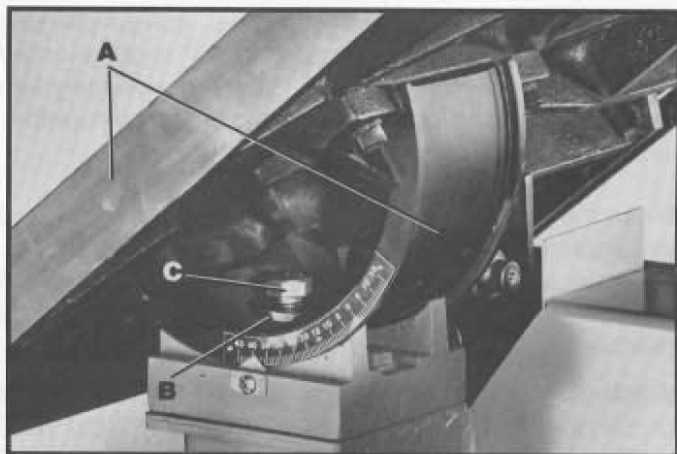

Fig. 3
1. Assemble the table assembly (A) to the machine, as shown in Fig. 3, and fasten in place using flat washer (B) and nut (C).